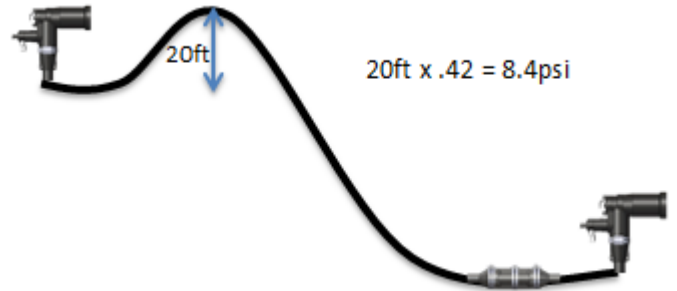

Figure 1: Calculate the pressure required to push fluid to the highest point of the cable.
- c. Calculate the pressure required to push fluid from the injection end to the highest point of the cable (h) using the following equations for XL and DMDB fluids (Figure 1):